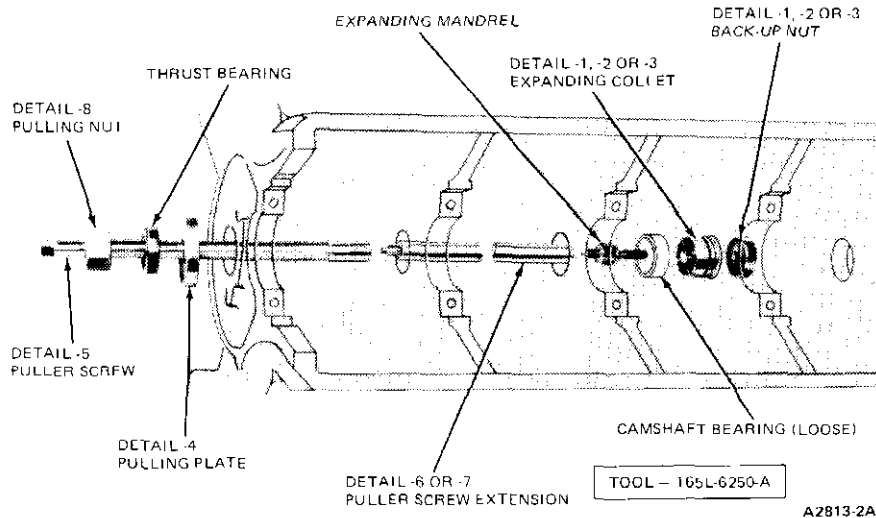
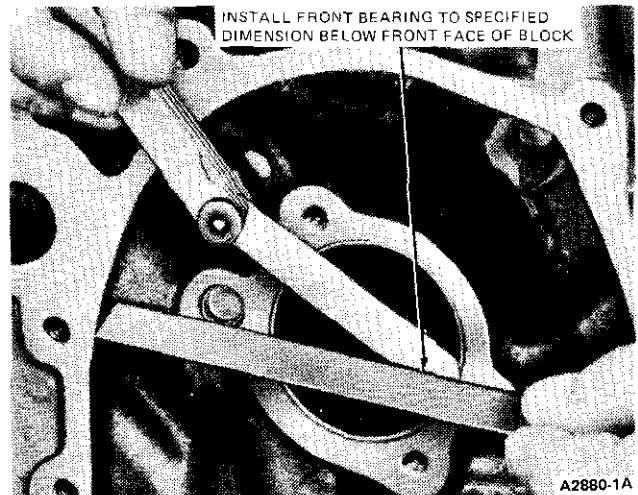

FIG. 41 Camshaft Bearing Replacement
FIG. 42 Camshaft Front Bearing Measurement
2. Remove the camshaft rear bearing bore plug (see Part 21-01—Core Plugs). Remove the camshaft bearings (Fig. 41).
1. Position the new bearings at the bearing bores with the oil holes aligned with the holes in the block, and press them in place with the tool shown in Fig. 41. Be sure to center the pulling plate and puller screw to avoid damage to the bearing. **Failure to use the correct expanding collet can cause severe bearing damage. Be sure the front bearing is installed the specified distance below the front face of the cylinder block (Fig. 42).** See Specifications.